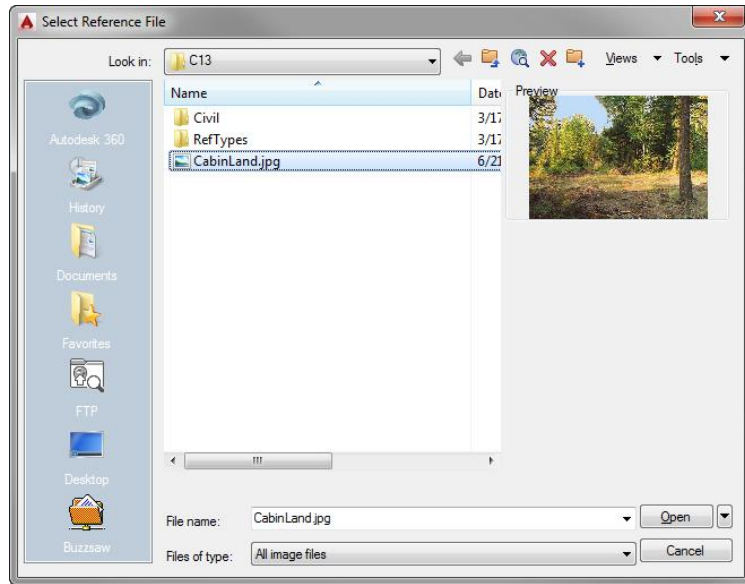

FIGURE 13.29: Selecting the image to be referenced in the Select Reference File dialog box
5. Navigate to the CabinLand.jpg file included with the download for this chapter, and then click the Open button (see Figure 13.29).